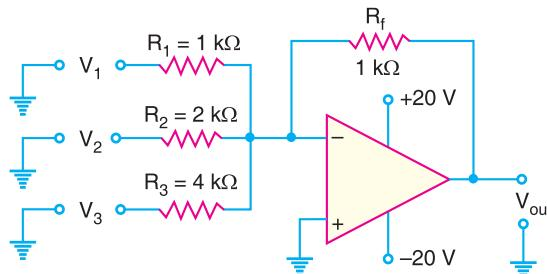

Fig. 25.75
**Example 25.48.** Determine the output voltage from the circuit shown in Fig. 25.75 for each of the following input combinations: